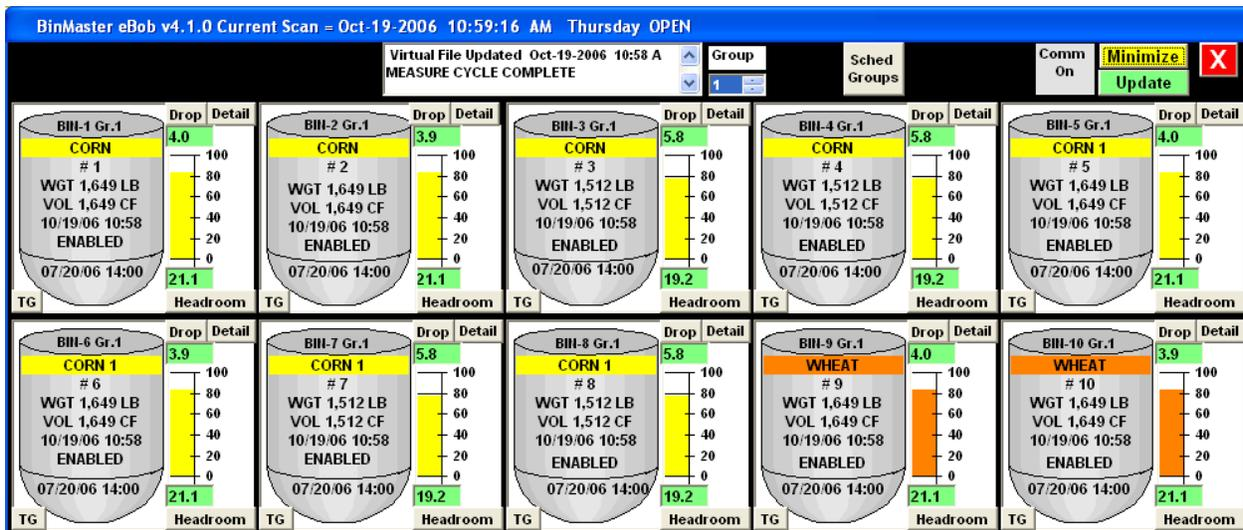

Figure 12
**Main Screen** The main operating screen paints a graphical representation of each of the SmartBob II Remotes that are setup in the system. The display shows the *last* measurement and *current* status of the SmartBobs. The main screen interface is the primary control screen for the eBob Workstation software. Details of each bin, group selection and measurement control are all accessed from the main screen. (Figure 12)